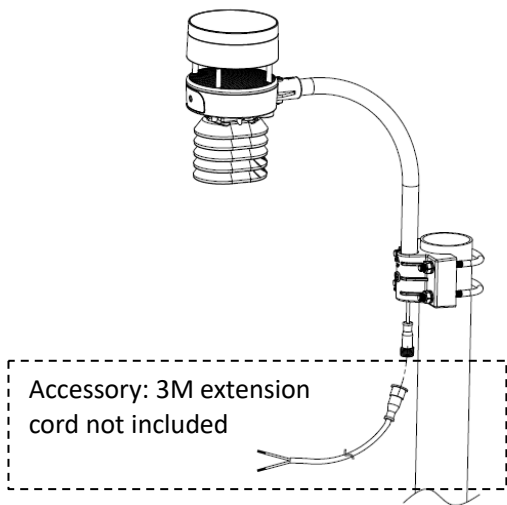

Figure 8: Sensor package mounting diagram 6-6
6. During wintertime, to prevent ice formed on the reflection surface, we recommend that you purchase an additional 3M extension cord and connect the cord to the connector as Figure 8 show.